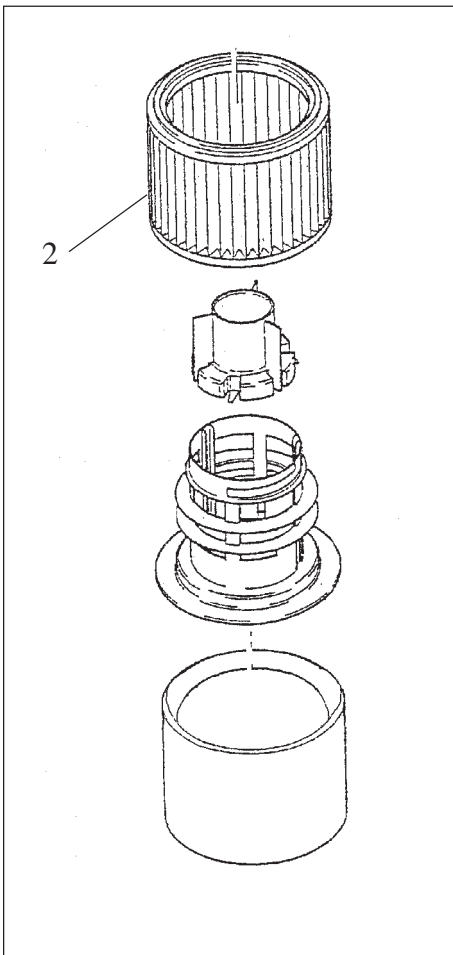

Figure 8
2. Remove the machine top section from the dirt tank and place to one side with the filter element facing upwards (Figure 8).
4. Unscrew the filter retaining nut (1) and remove.
5. Pull off the filter element (2).